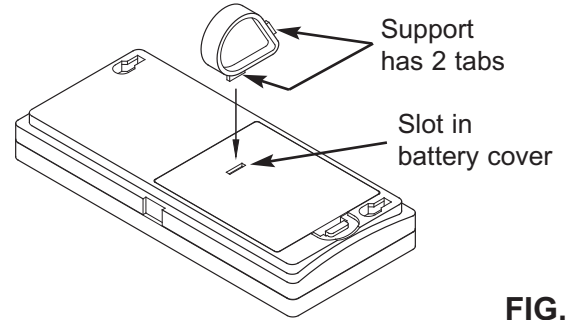

FIG. 37
1. Snap one of the support's two tabs into the rectangular slot on the back of the remote's case (See Figure 37).